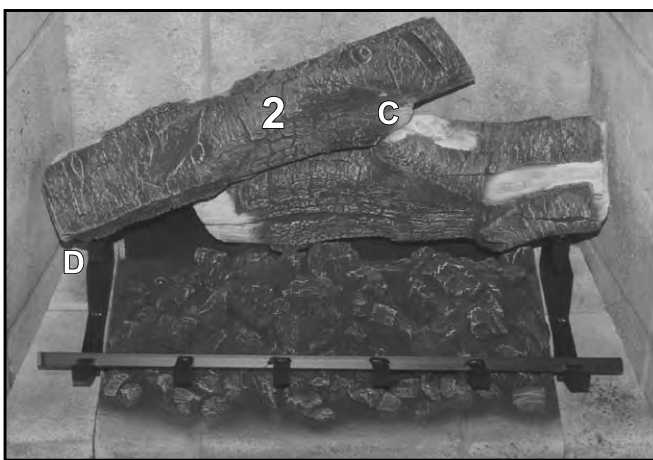

Figure 74: Log 2 in Place.
2. Install Left Rear log with the right side son the grate, using a groove on the bottom of the log to index itself to the grate (see Figure 74). The right side self locates on the first log. Alignment notches are provided for locating the centre area (see C in Figure 74). Align the front edge of the log with the upright section of the log grate (see D in Figure 74).